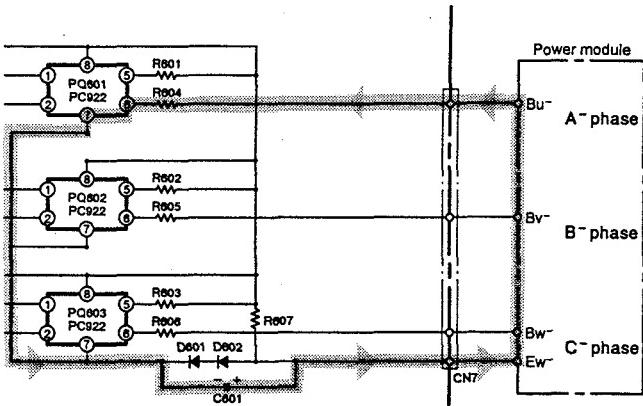
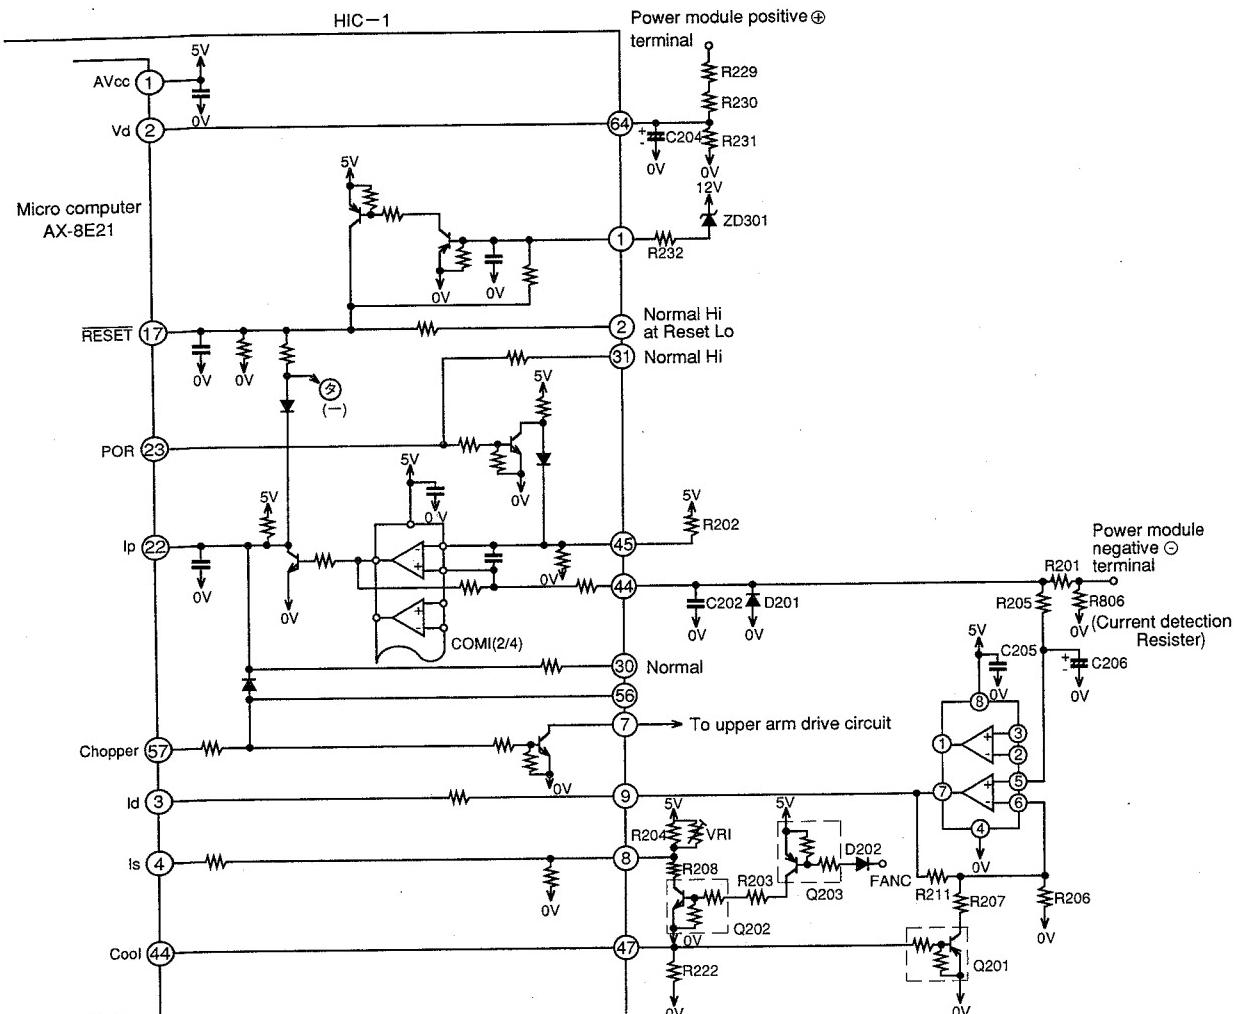

Fig. 7-5
Fig. 8-1 Micro computer(AX-8E21) and peripheral circuits
- When pin ⑤ of the micro computer goes "Hi" → "Lo", a photocoupler between PQ601 pins ① and ② turn off and reverse bias current flows to C601 → power module's Ew- terminals → Bu- terminals → R604 → PQ601 to cut off the lower arm transistors. (Fig. 7-5)
- When the peak current cut off function operates, HIC-1 ⑩ pins become 0V, PQ501-PQ503 and PQ601-PQ603 turn off and the upper/lower arm drive circuits stop.
- When a reset signal is applied, HIC pins ⑦ and ⑫ become open, PQ501-PQ503 and PQ601-PQ603 turn off and the upper/lower arm drive circuits stop.
- Fig. 8-1 shows the micro computer and its peripheral circuits, Table 8-1, the basic operations of each circuit block, and Fig. 8-2, the system configuration.